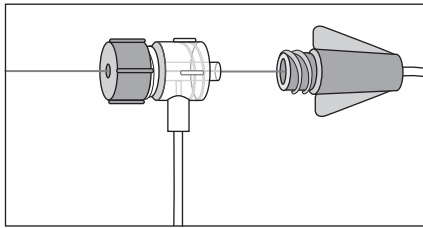

Figure 29
10. Slowly remove the Tuohy-Borst adapter and Stylet as a unit (refer to Figure 29). Do not remove the Stylet through the Tuohy-Borst adapter body.